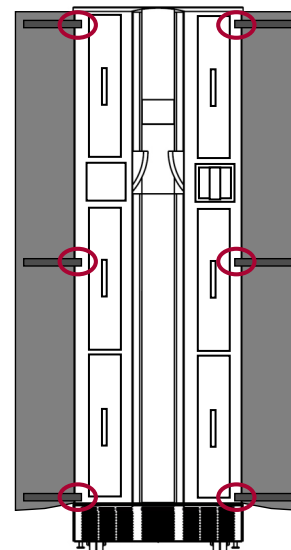

Figure 8. Attaching the Door Hinges
2. Using the supplied Phillips screws, attach the **left door hinges** to the frame (Figure 8).